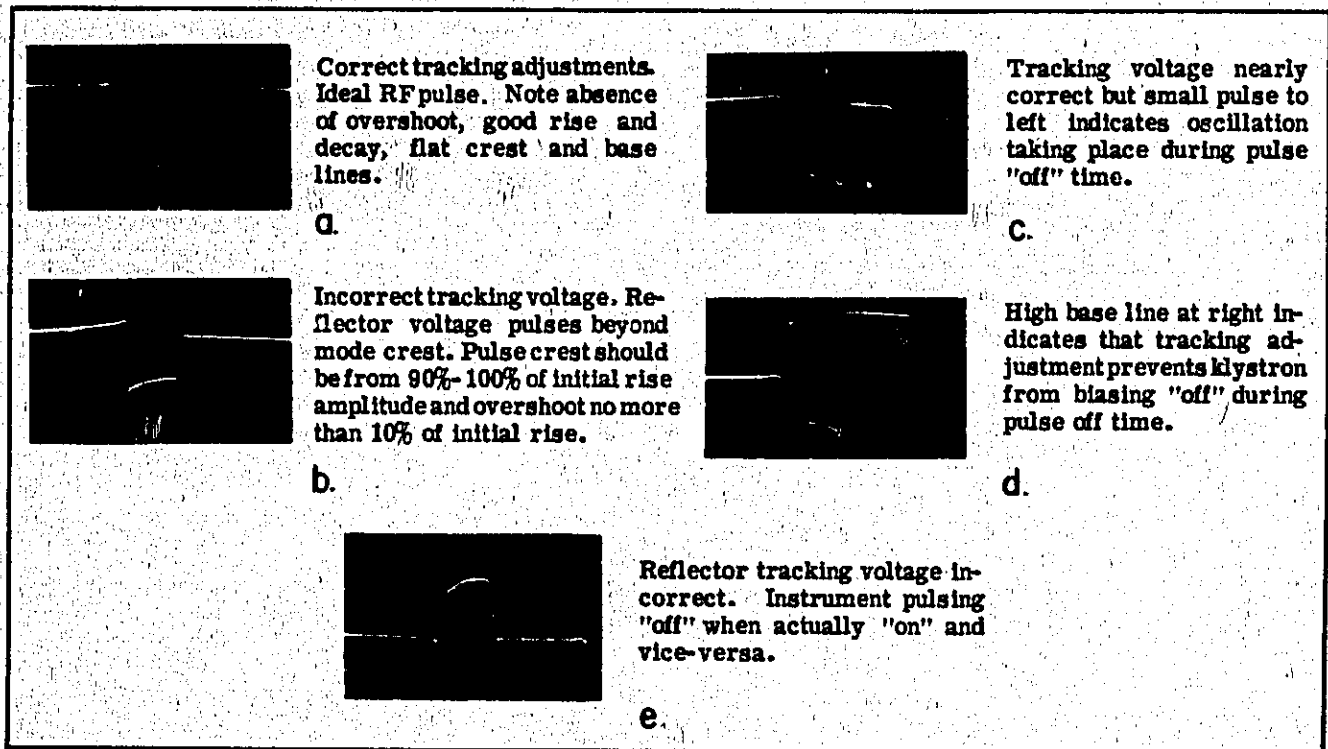

Figure 5-15. Typical Pulse and Square Wave Oscillograms
- d. Tune frequency dial on signal generator slowly from 10 to 15.5 GHz while observing pulse shape and pulse base line appearance on oscilloscope. Various pulse waveforms are shown in Figure 5-15. If pulses have sharp overshoot, the reflector tracking potentiometer for that frequency has been adjusted beyond the crest of the mode pattern. A ragged base line indicates that oscillation is taking place when klystron should be cut off. If either of these troubles are present, readjust tracking potentiometer applicable to reflector mode and frequency under examination.